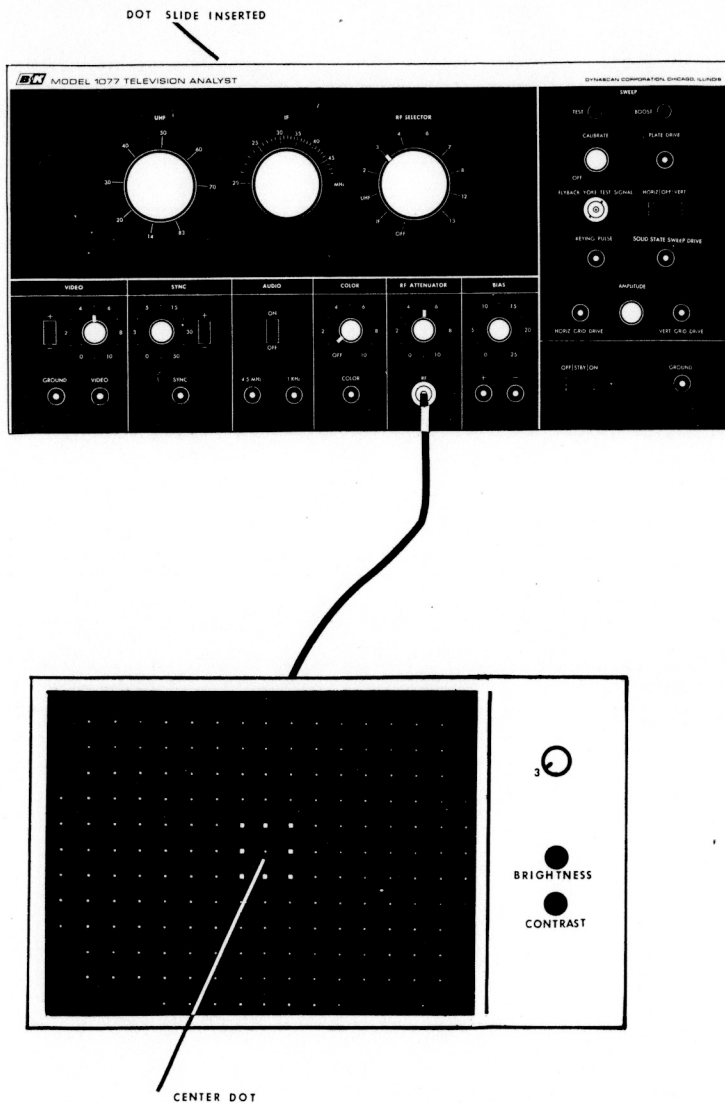

Figure 58. Insert Dot Pattern Slide for Static Convergence Adjustment
4. For static convergence adjustments, insert the dot slide into the TELEVISION ANALYST and adjust the static convergence magnets for a white center dot. The center dot is easily identified because it is surrounded by square dots. (See Figure 58)